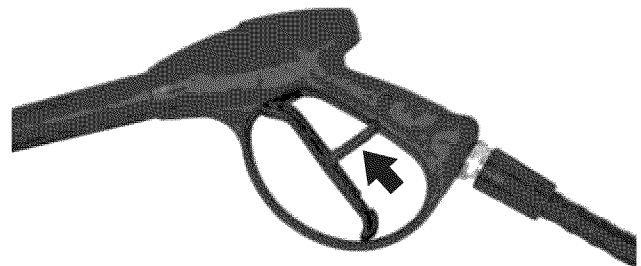

Figure 39 – Trigger Lock Lever
1. Flip the trigger lock lever up and lock the trigger in the **OFF** position (see Figure 39).